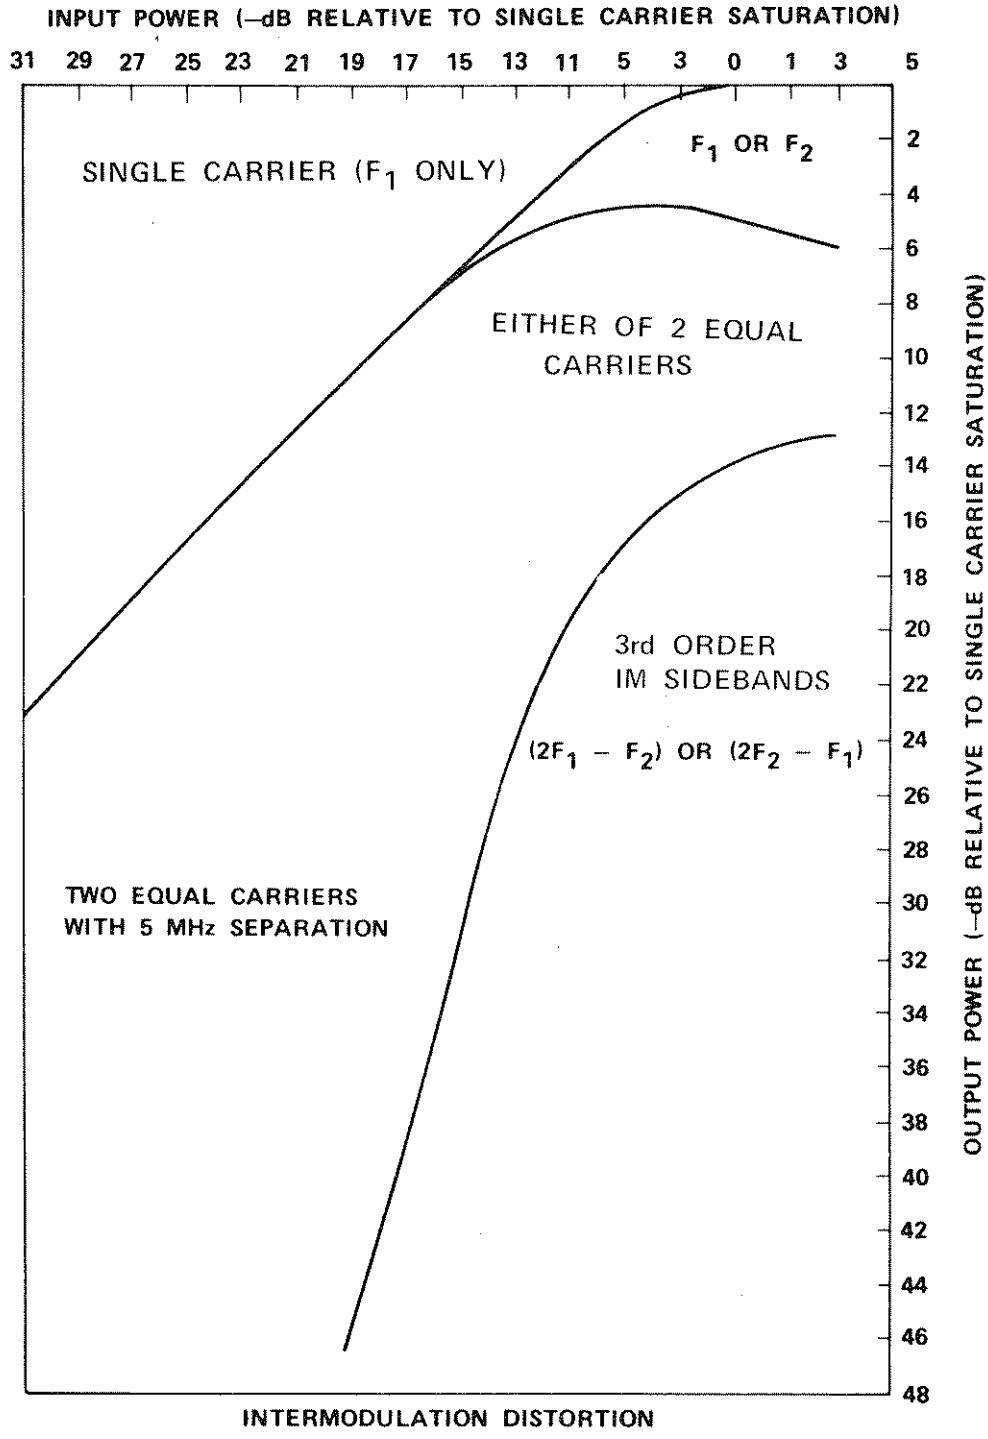

Figure 3.3 Typical third-order product curve.
Since traveling-wave tube amplifiers are inherently broadband devices, they can be used to amplify more than one carrier at a time due to the instantaneous bandwidth characteristic. When used in this fashion, intermodulation (IM) products will occur and their levels will be dependent on the region of operation (saturated or linear). The third order IM products are of greatest concern because of their power level with respect to the carriers. Figure 3.3 shows a typical third-order product curve. Please note the relationship of the IM curve and the RF power output when, in the linear region, a change of one dB RF output causes a two dB change in the third-order IM product level. Also, it should be pointed out, the RF output of the traveling-wave tube will be distributed among the carriers and IM products. Therefore, if the saturated output power for a single carrier is 20 watts and the traveling-wave tube amplifier is driven into saturation by two carriers, each amplified carrier will be somewhat less than 10 watts due to power existing in the IM products. This is indicated in Figure 3.3.